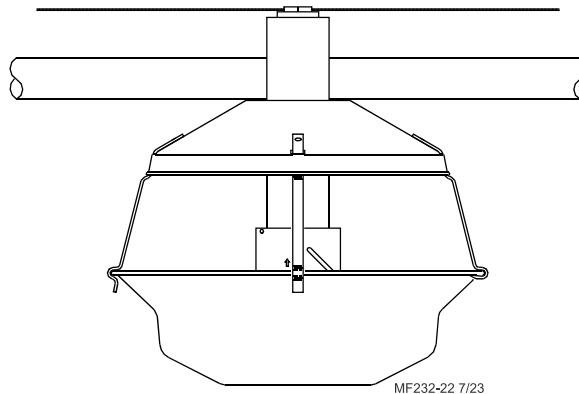

Figure 22. Install Feeders on Tubes
2. Rotate the feeder tube so the tab at the outlet hole will pass throughout the notch in the Drop Tube. Rotate the tube 180 degrees to lock the pans in place, **see figure 22**. Make sure outlet holes are down.